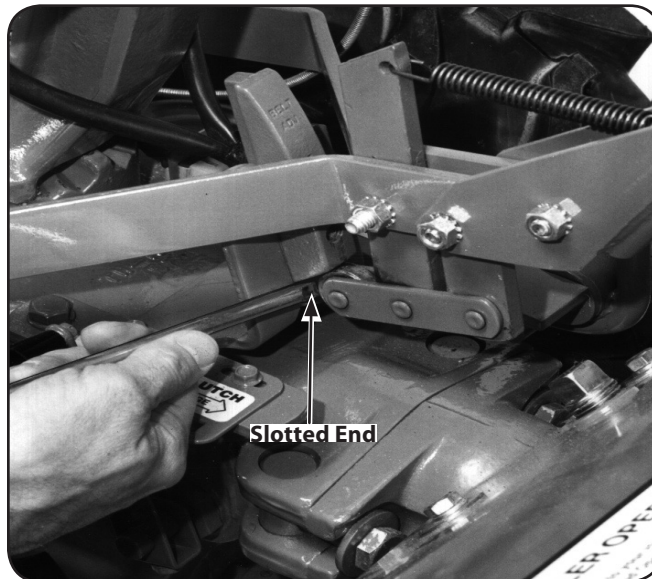

Figure 6-14
- Without moving the clutch roller, try inserting the $\frac{1}{4}$ "-thick, slotted end of the belt adjustment tool in between the roller and the upright bracket. The flat edge of the tool must be facing the roller. See Figure 6-14.